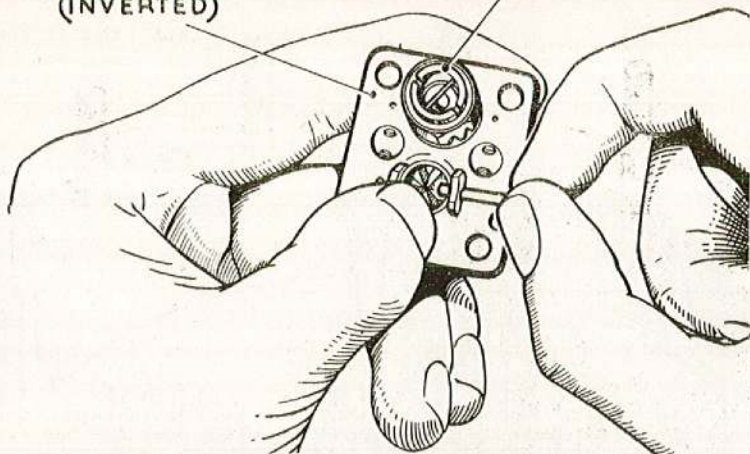

Fig. 11. Removing the stall pressure adjustment
35. Reduce the spring load on the rocker lever by rotating the stall pressure adjusting screw anti-clockwise as far as possible, then compress the spring slightly (fig. 11) and remove the retaining pin, adjusting screw, spring seating and spring.